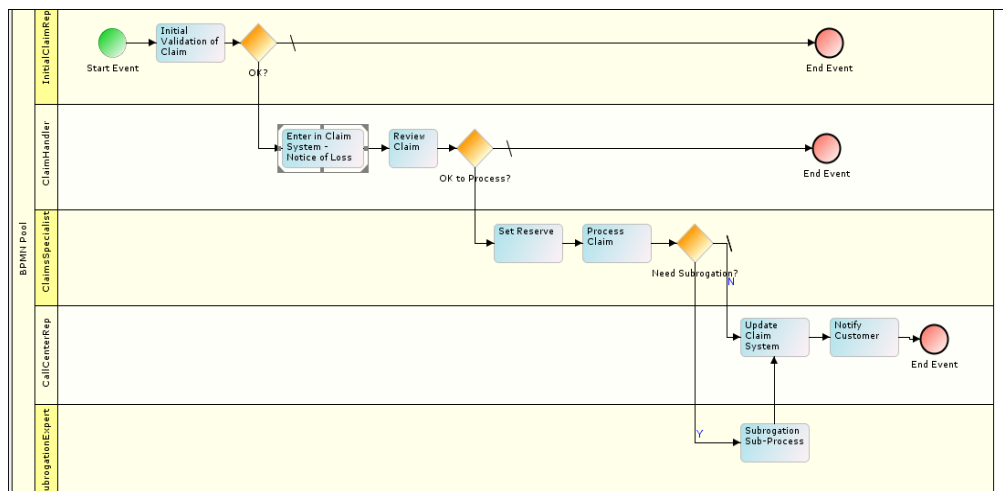

Figure 21: Connecting all BPMN Elements
3. Connect all BPMN elements with appropriate control flow (see Figure 21).
- Connect all BPMN elements with appropriate control flow (see Figure 21).